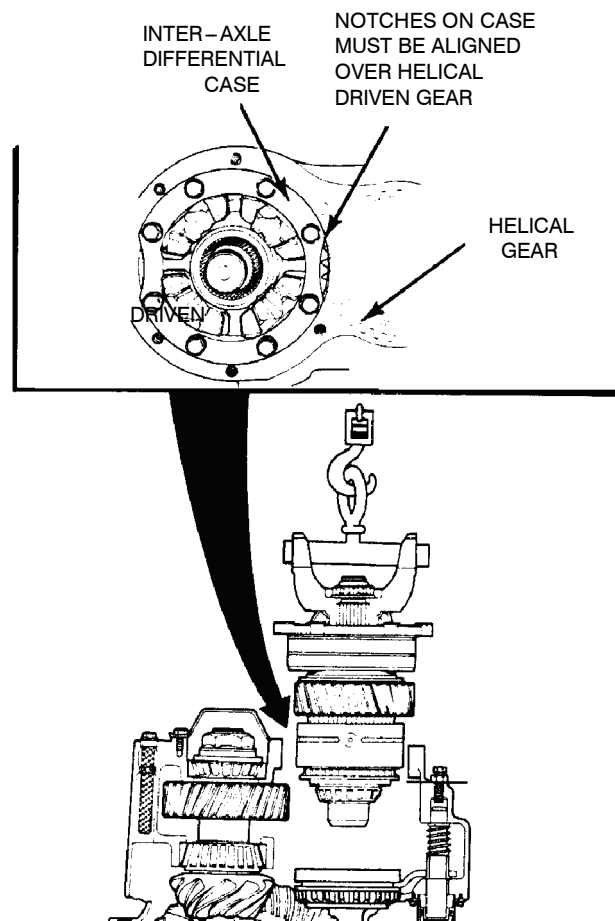

Figure 94.
- (3) Install the input shaft assembly in the differential carrier according to the following procedure:
- (c) Rotate the inter-axle differential case so that one of the notches on the case is aligned with the helical driven gear in the carrier. Figure 94.